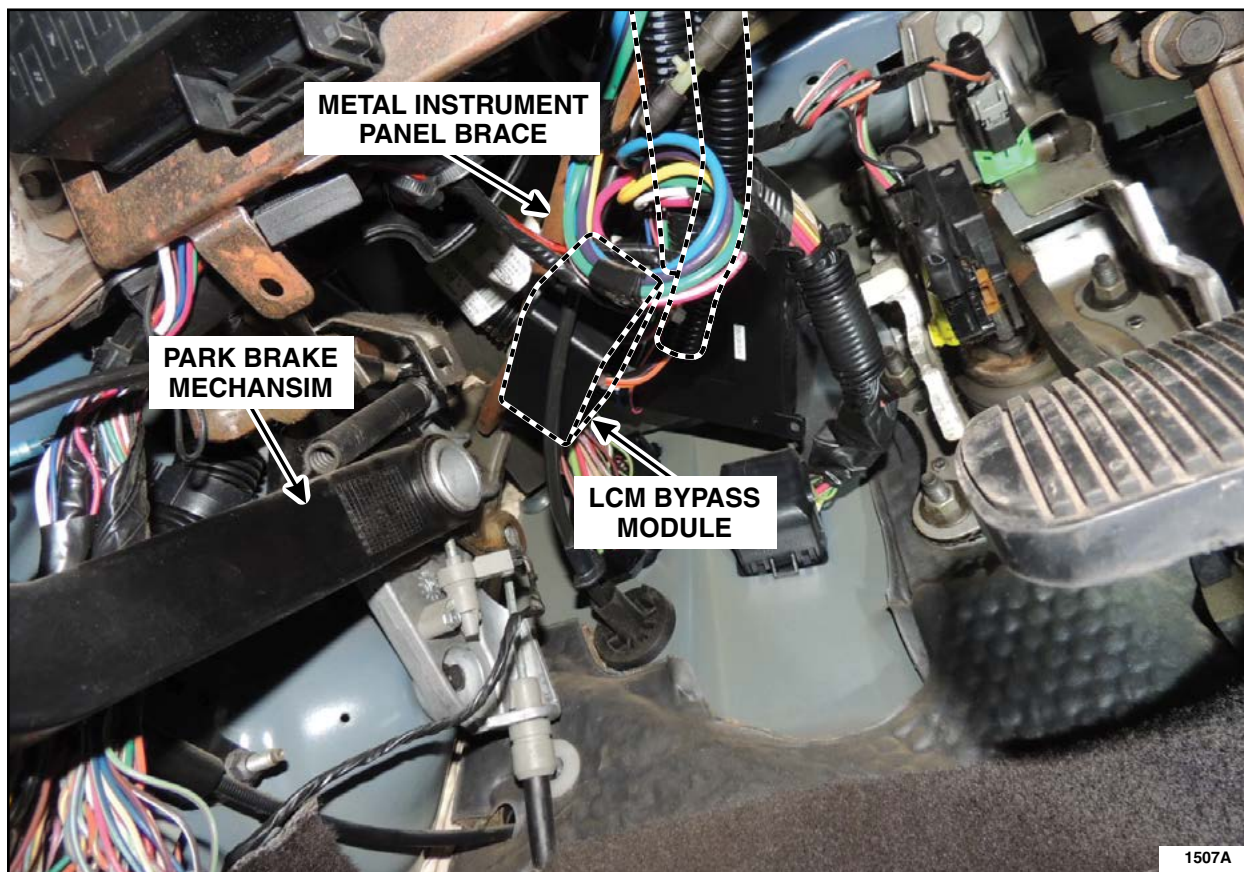

FIGURE 2
6. Mount the LCM bypass module to the metal instrument panel brace located under the driver side instrument panel, above the park brake mechanism. Figure 2.